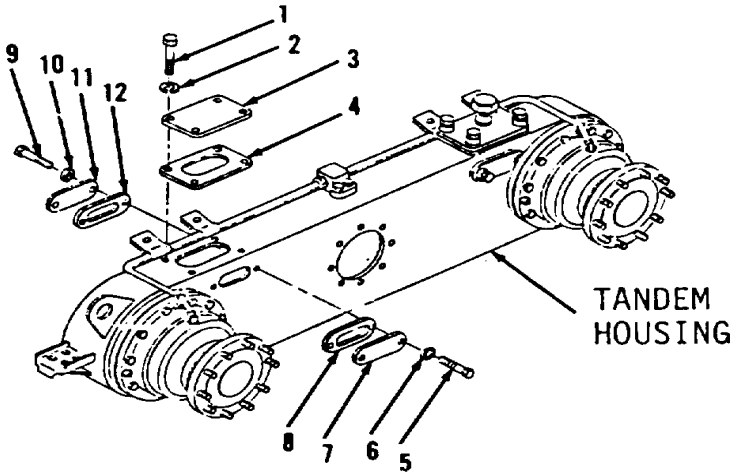

Figure 5-146.
- 4. Install puller assembly and two legs on chain (16).
- 5. Remove ratchet assembly from chain (16).
- 6. Install bar (14) on link (15).
- 7. Remove puller assembly and two legs from chain (16).
- 8. Install two new cotter pins (13) in link (15).
- 9. Install new gasket (12), cover (11), two washers (10) and bolts (9, Figure 5-146) on inner side of tandem housing.
- 10. Install new gasket (8), cover (7), two washers (6) and bolts (5) on outer side of tandem housing.
- 11. Install new gasket (4), cover (3), four washers (2) and bolts (1) on top of tandem housing.